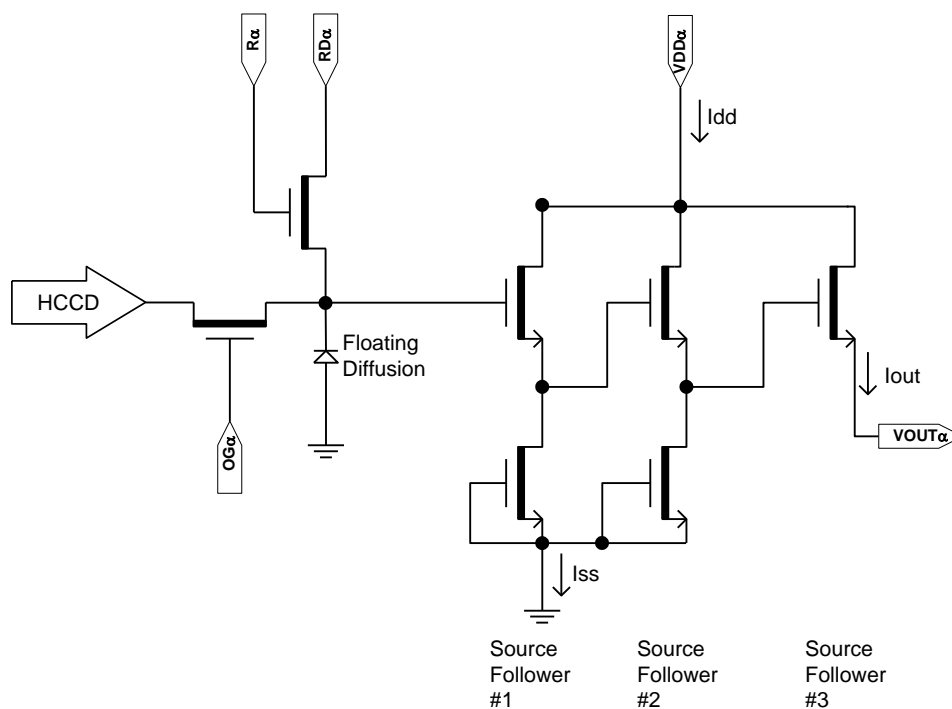

Figure 14: Output Amplifier
2. The maximum DC current is for one output.  $I_{dd} = I_{out} + I_{ss}$ . See Figure 14.